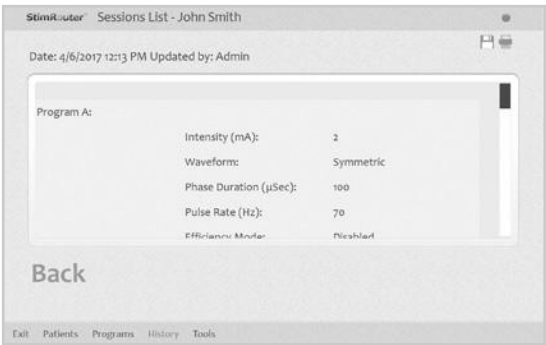

Figure 9-9. Session detail window
- 3. The session detail will open. See Figure 9-9.